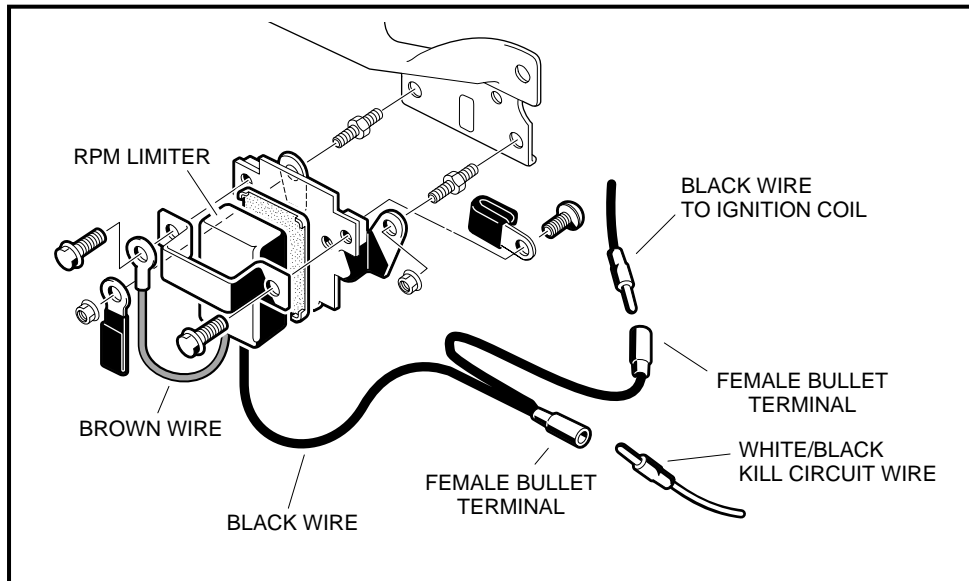

Figure 11-40 RPM Limiter
2. Disconnect both of the bullet terminals (**Figure 11-40, Page 11-35**).
- 2.1. Disconnect both of the bullet terminals at the RPM limiter. Place the black (–) probe of the meter on the male bullet terminal of the wire connecting to the coil under the fan housing, and place the red (+) probe on a clean unpainted surface of the engine or frame (**Figure 11-40, Page 11-35**).